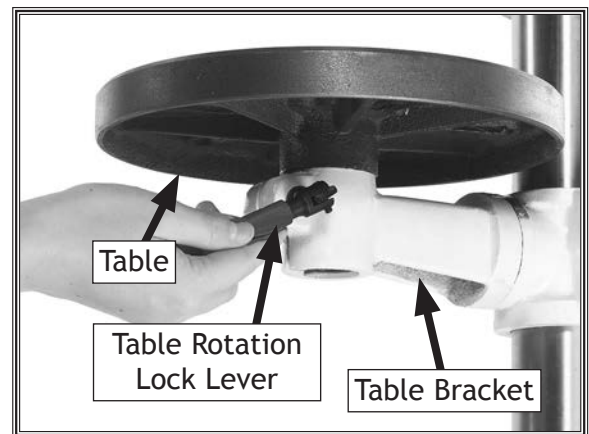

Figure 16. Model W1669 table assembly.
13. **W1669 Only:** Install table onto the table bracket and tighten table rotation lock lever to secure (see **Figure 16**).